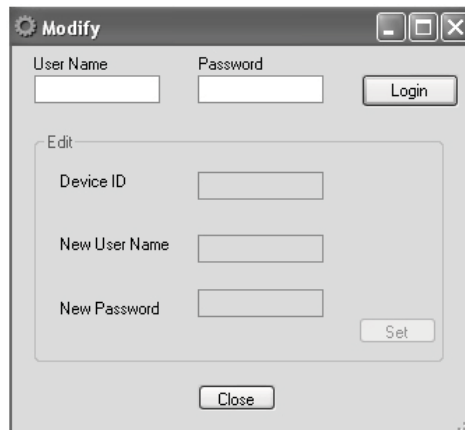

Figure 3-3 Modify User Name, Password and Device Name dialog box
3. The Modify dialog box will appear as shown below (Figure 3-3).